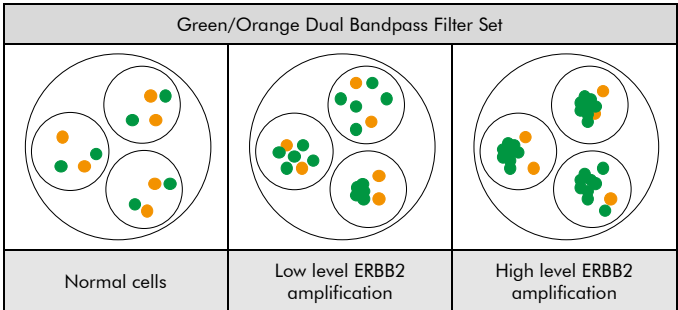

Fig. 2: Expected results in normal and aberrant nuclei
**Normal situation:** In interphases of normal cells or cells without an amplification involving the ERBB2 gene region, two green signals and two orange signals appear (see Fig. 2).
**Aberrant situation:** In cells with an amplification of the ERBB2 gene region an increased number of green signals or green signal clusters will be observed (see Fig. 2).